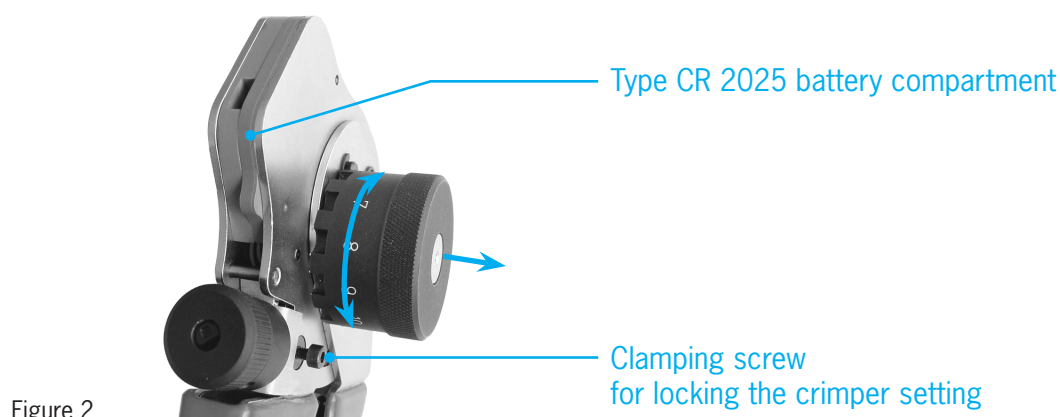

Figure 2
- Refer to the adjustment matrix for die settings and contact bushing positions (3) for the contact you intend to crimp.
- Lock the crimper setting using the locking screw (2).
- Lift and turn the contact bushing (3) to the side (see Figure 2) into the setting shown on the adjustment matrix.